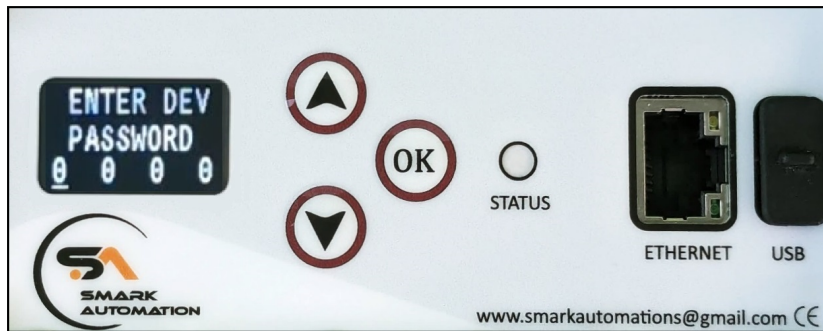

Figure 30: Entering Device Password
2. **Enter Device Password:** Press OK to enter the 4-digit device password. The default password is 0609. Enter the password to access options for resetting the web credentials and changing the admin section password as shown in Fig 30.